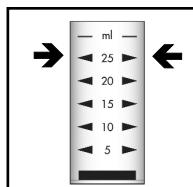

Figure 1
1. Fill the sample cup to the 25 mL mark with the sample to be tested (fig. 1).